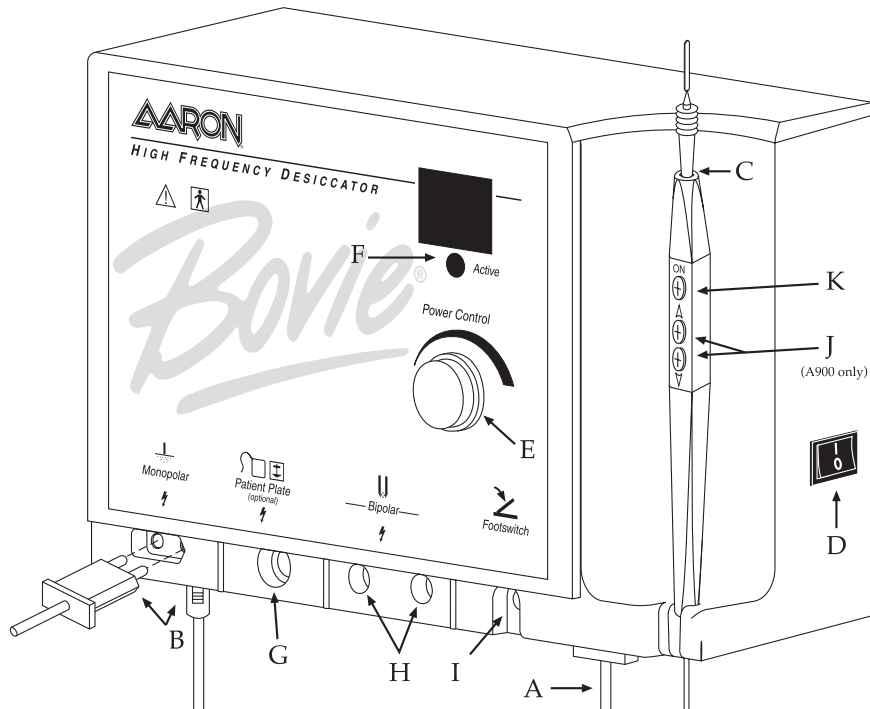

Figure 2
2. Plug the female end of the power cord into the base of the unit (see figure 2, letter A).
4. Plug the handpiece into the monopolar output on the lower left of the front on the unit (see figure 2, letter B). The plug is designed to fit in only one direction. Plug the smaller round connector from the handpiece (A900 only) into the receptacle on the bottom of the unit (see figure 2, letter B). The three button handpiece is designed to give the doctor complete fingertip control of the power output settings.
5. Slide the standard electrode into the handpiece until it is firmly seated (see figure 2, letter C). The handpiece will accept most standard  $\frac{3}{32}$ " electrodes.
7. Turn the unit power on utilizing the switch on the right side panel of the unit (see figure 2, letter D).
8. Set the power output either by using the dial on the front of the unit (see figure 2, letter E) or on Aaron 900 unit only by the up and down buttons on the handpiece (see figure 2, letter J). When power level adjustment is being made by the handpiece an audible tone will sound to indicate that the power level has been changed. Depressing and holding the up or down buttons will cause the power settings to change more rapidly for quick adjustment of the output settings. Power output is displayed in ".1" watt increments below 10 watts and in whole numbers from 10 to 30 watts.
9. To activate the unit, remove the handpiece from the holder. Place the handpiece in the desired position and depress the activation button (see figure 2, letter K). When the unit is activated, an audible tone is sounded and the blue active light will illuminate (see figure 2, letter F).
10. To use the optional grounding plate with cord (A802EU), insert the plug of the cord into the grounding plate output (see figure 2, letter G) and connect the other end into the grounding plate. The plate should be placed underneath the patient at a point where the entire plate is covered by bare skin. Do not use gels or creams on the plate.
11. To use the optional bipolar cord (A827EU), insert the plugs into the bipolar outputs (see figure 2, letter H). The cord is then plugged into the forceps. A sliding gate behind the monopolar and bipolar outputs prevents the user from using both simultaneously.
12. The optional footswitch is plugged into the footswitch output and placed on the floor (see figure 2, letter I). The footswitch can be used with monopolar procedures and must be used with bipolar procedures.